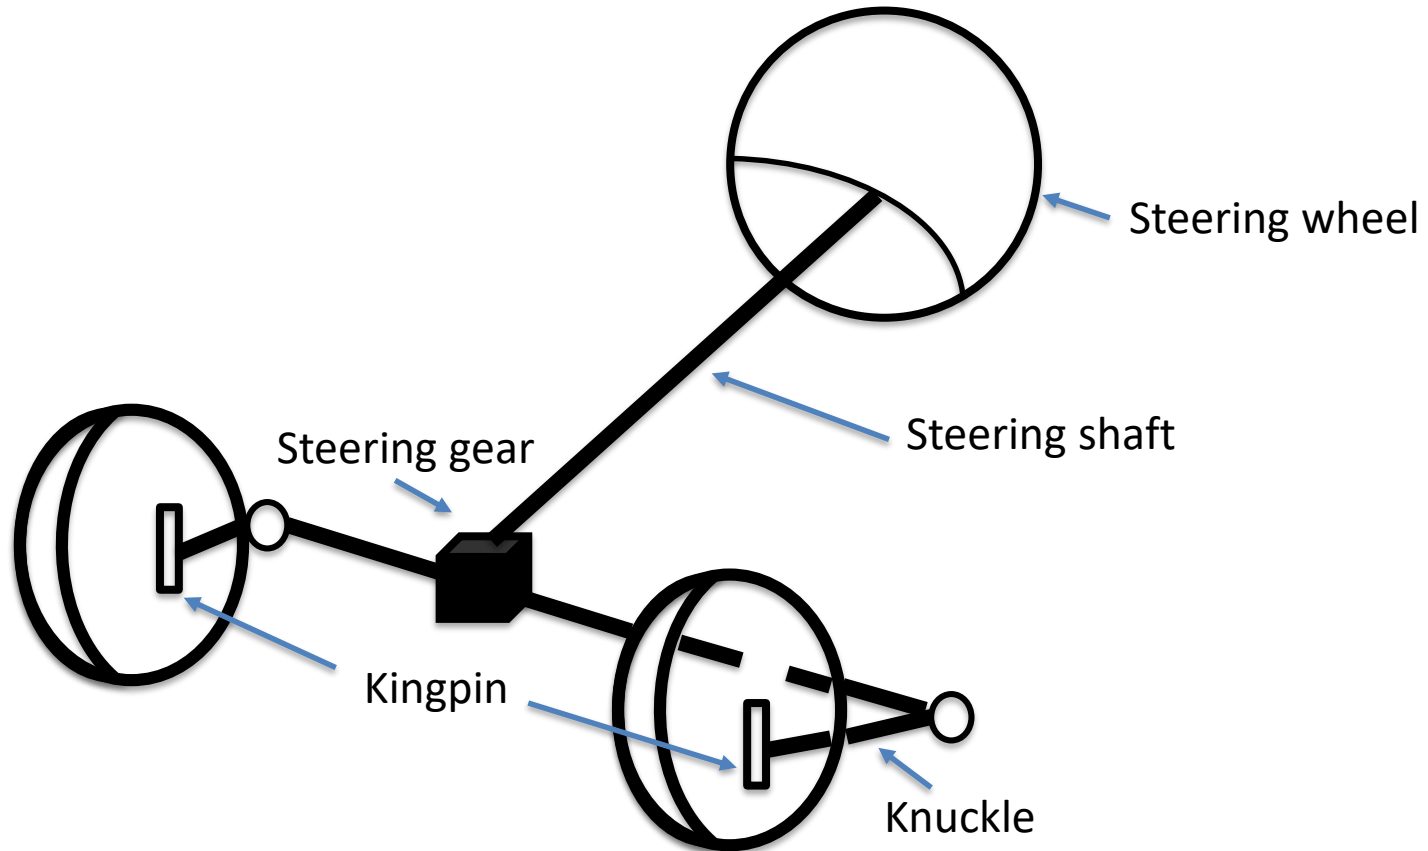

Figure 1 Steering system of the vehicle
- From Fig.1, when the driver turn the steering wheel, the steering shaft will rotate either to the clockwise or counter clockwise.